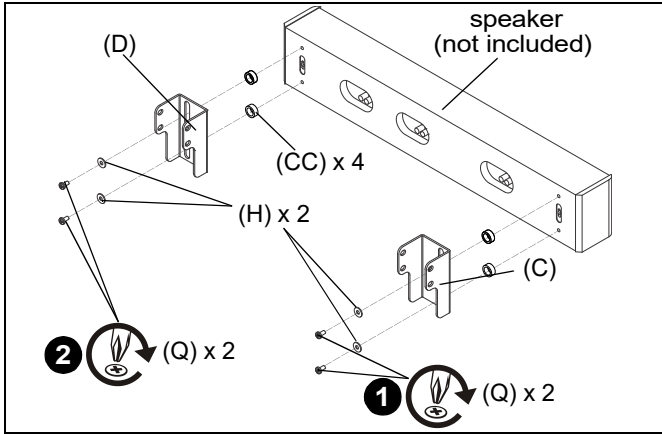

Figure 15
1. Attach left wall speaker interface (C) to back of speaker (left side) using two 1/4-20 x 1/2" Phillips pan head screws (Q), two large washers (H) and (optional) two dampening rubber washers (CC). (See Figure 15)
2. Repeat Steps 1 with right wall speaker interface (D). (See Figure 15)